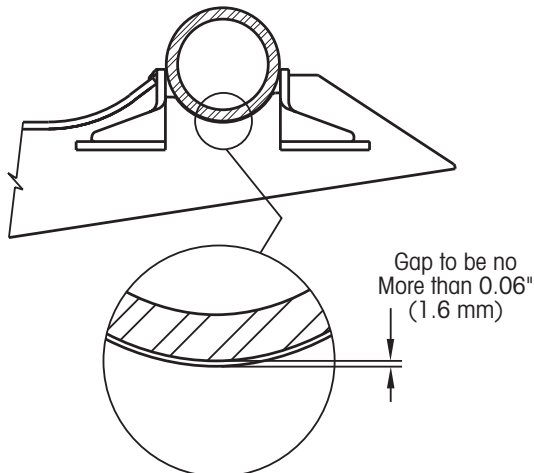

Figure 2: Axle seat gap
**IMPORTANT:** At least one side of each axle seat radius must be tight against the axle. Any resulting gap must be no more than 1/16 inch (1.6 mm), *Figure 2*.